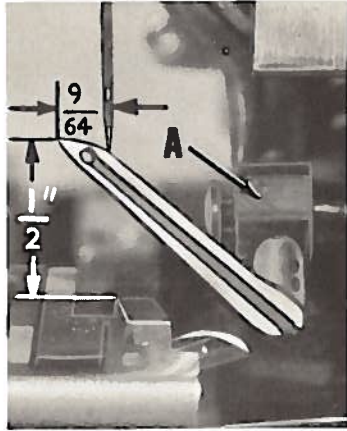

Fig. 10
Next turn handwheel until looper is at the left end of its travel; check dimensions of upper looper point with respect to needle and throat plate (Fig. 10). If resetting is necessary, do it by moving the upper looper holder (A, Fig. 10).
If it becomes necessary to move looper thread pull-off (T) be sure to take up all end play in needle drive shaft before tightening. If upper looper is located so that it is higher over throat plate than recommended in (Fig. 10), the purl will tend to form near top edge. If upper looper is too low, the purl will form nearer bottom edge.